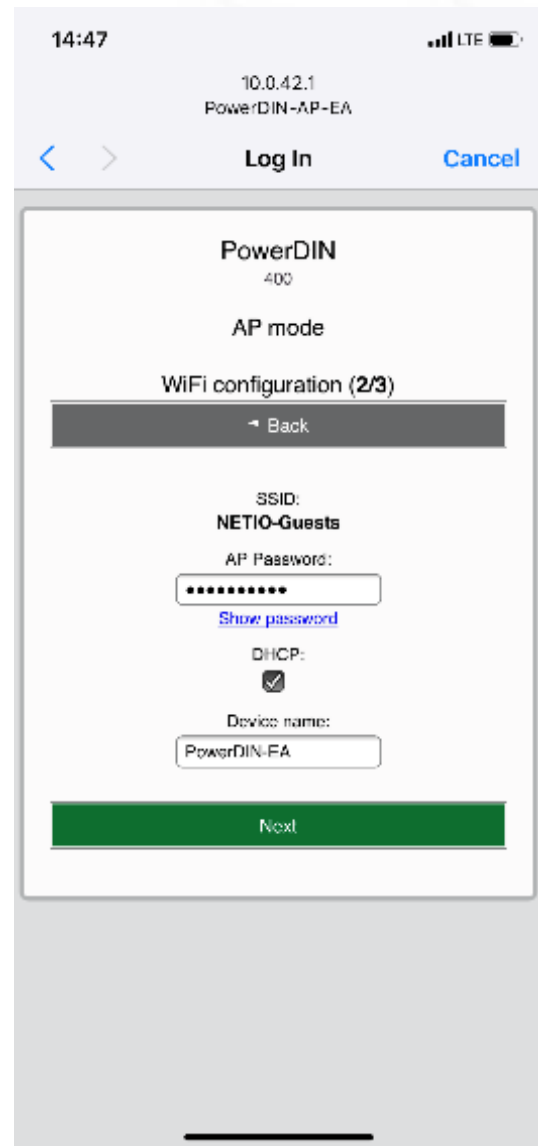

Figure 9 - Connecting to Wi-Fi in AP mode
- Enter the password for the selected WiFi network. You may also change the device name. If your network does not use DHCP, unselect this option and manually enter the IP address and other network parameters (Figure 10; for experts only). Click “Next” to confirm (Figure 9).